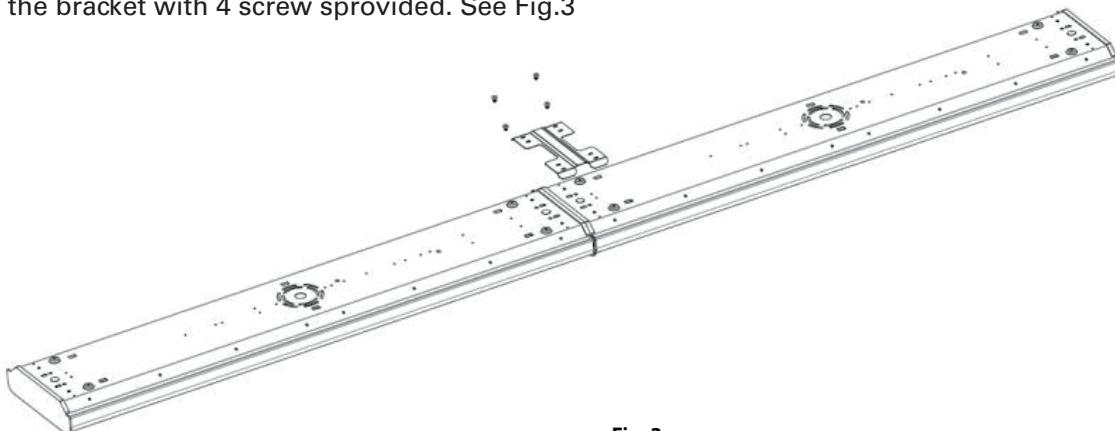

Fig. 3
#### INSTALLATION OPTIONS: Mounting Bracket (ordered separately) - Fig. 3
2. Secure the bracket with 4 screws provided. See Fig.3